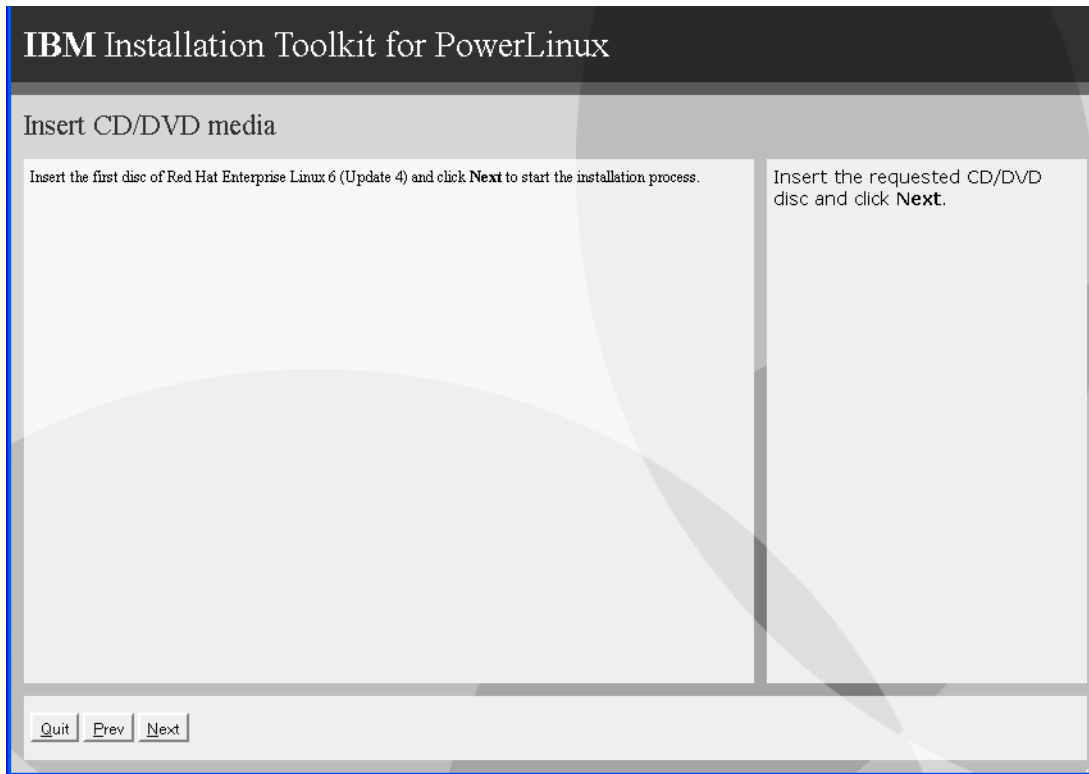

Figure 12-21 Insert CD/DVD media page
26. When prompted to change media, (see Figure 12-21), unload the IBMIT4LINUX virtual media and then load the Linux installation virtual media in the VIOS via a command line on the VIOS partition. The following commands are used to perform these tasks: